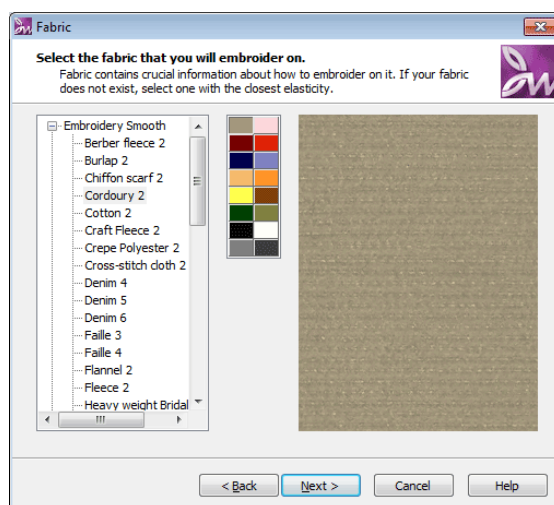

Figure 2.4: Select fabric dialog
16. The **Fabric** dialog will appear (Figure 2.4). Expand the **Embroidery normal** category from the list at the left by clicking on the + icon next to it.